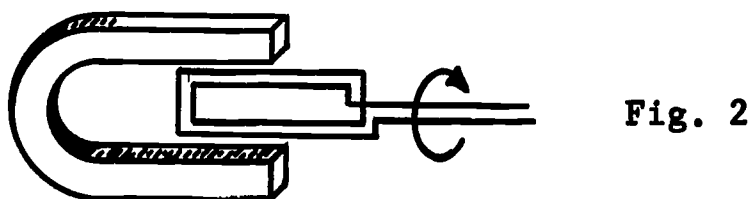

Fig. 2
6. Attach the flat coil to the galvanometer in place of the long coil. Put the flat coil between the poles of the U magnet with its plane cutting the lines of force, as shown in the upper part of Fig. 2.